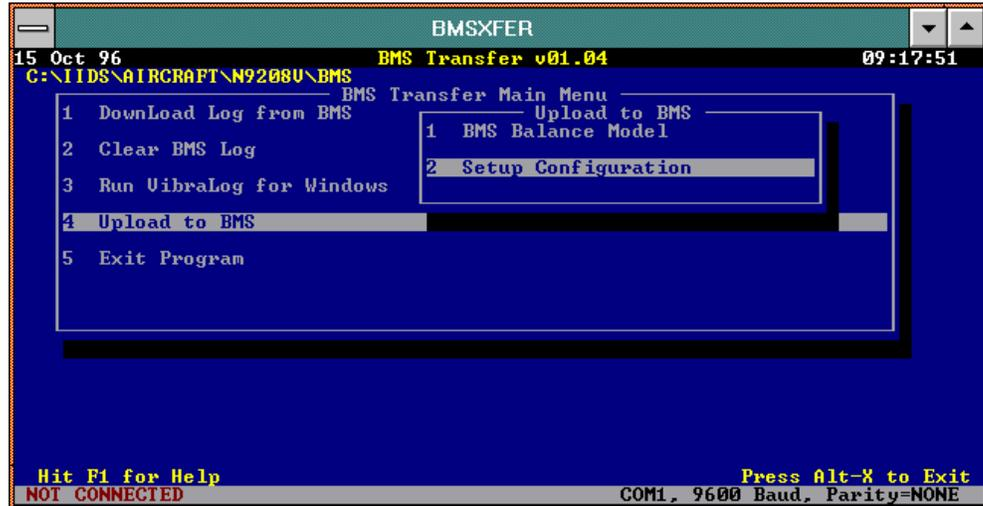

Figure 64. BMS Upload Screen
3. Select BMS Balance Model or Setup Configuration to upload using the (↑↓) arrow keys, or press the menu option number (1, 2, 3, etc.), and press the ENTER key (refer to Figure 64).